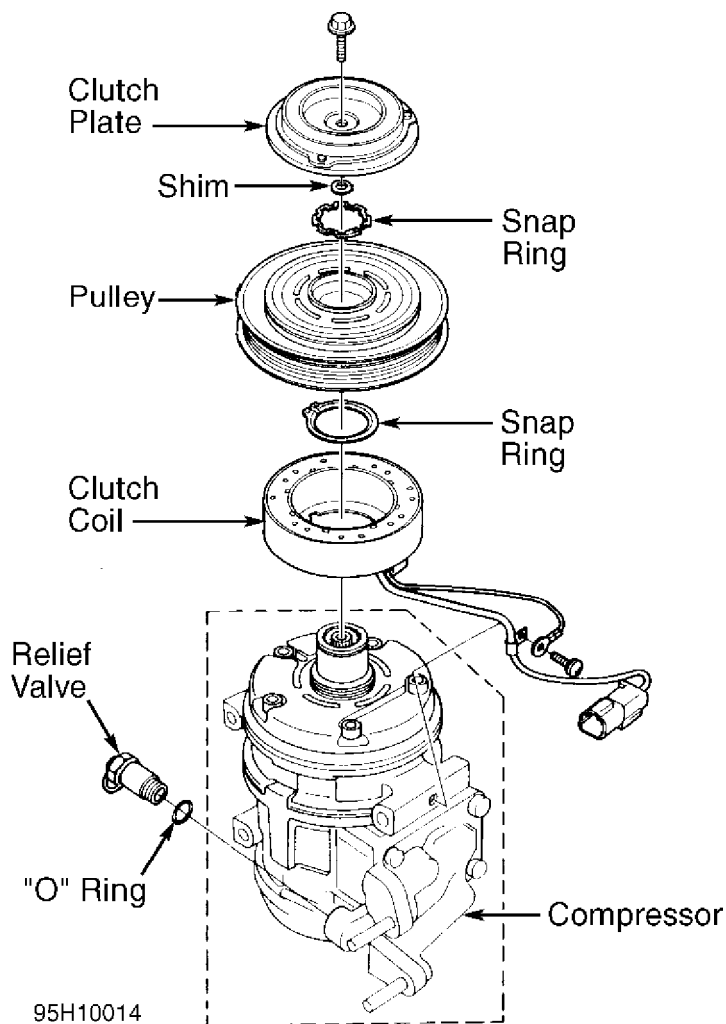

Fig. 1: Exploded View Of Nippondenso 10-Cyl. Compressor (Typical)
3) Remove snap ring, bearing, and seal (if equipped) from pulley. See Fig. 1. Remove screw for clutch coil lead. Remove snap ring and clutch coil.
1) Remove clutch plate and pulley. Remove shim(s) from shaft. Remove clutch coil if necessary. Remove felt and felt retainer (if equipped). See Fig. 1. Place shaft key remover on shaft and turn to remove key.